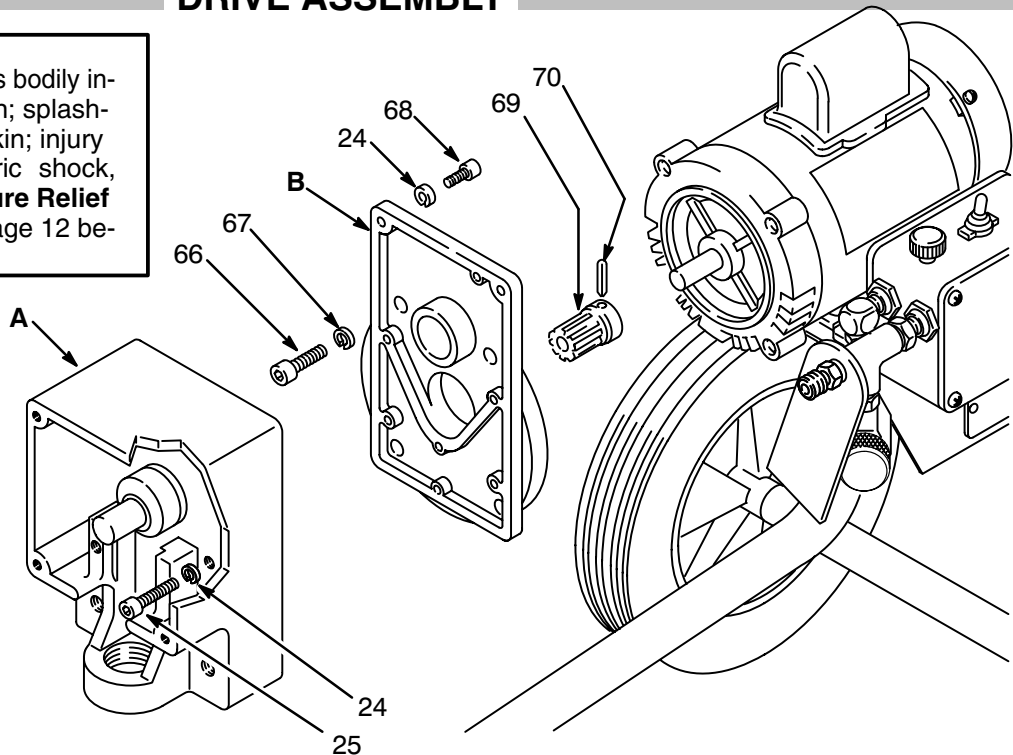

Fig 6
Remove the capscrews (25 & 68), lockwashers (24), and drive housing (A). Remove the screws (66), lockwashers (67), and motor housing (B). See Fig 6.